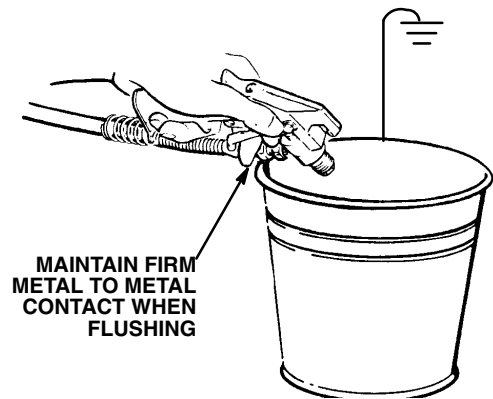

Fig 15–2
7. Hold a metal part of the gun firmly against and aimed into a metal waste container. See Fig 15–2. Squeeze the trigger and hold it open, turn the ON/OFF switch to ON, and slowly increase the pressure setting until the sprayer starts. Keep the gun triggered until all air is forced out of the system and the solvent flows freely from the gun. Release the trigger and engage the gun safety latch. This procedure helps reduce the risk of static sparking and splashing.